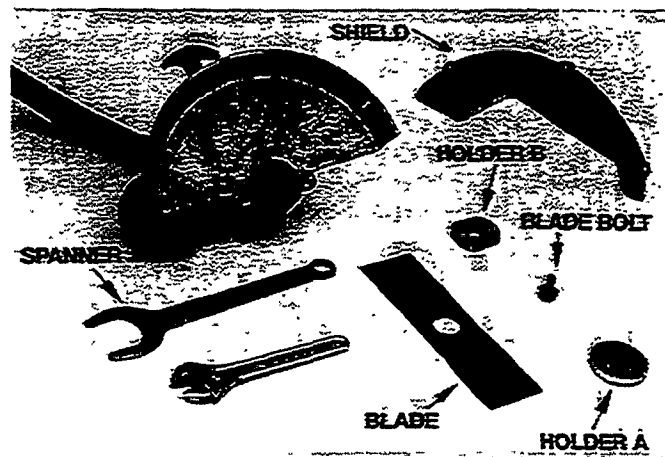

Figure 37
- To replace blade or to grease gearbox, first make certain engine is stopped. Fit spanner wrench supplied onto flats of holder B (Figure 37).